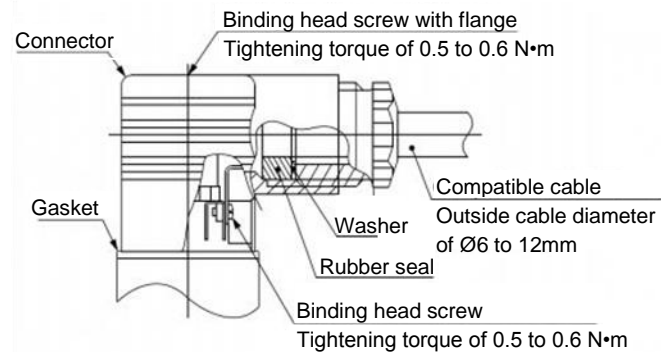

Figure 8. DIN connector construction
- Tighten screws and fittings according to Figure.8.